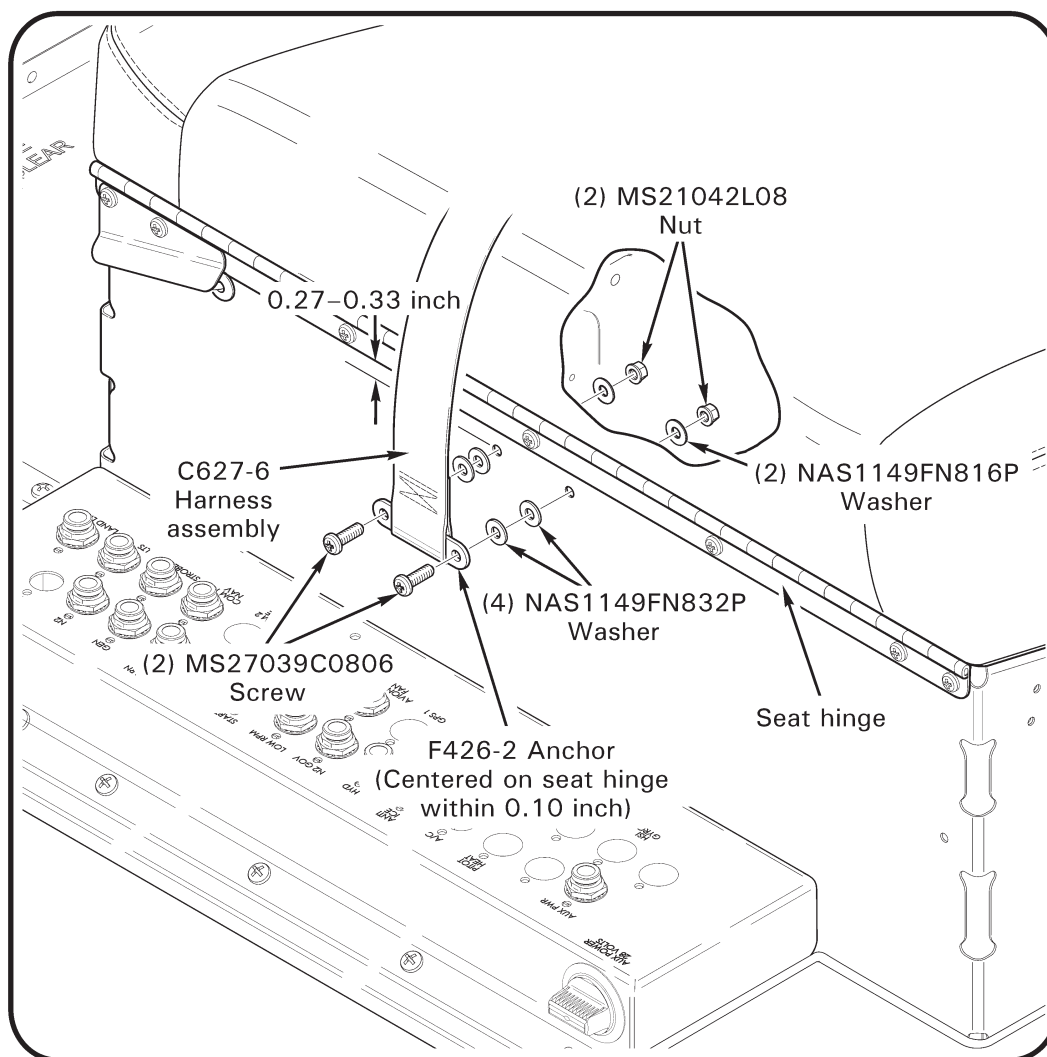
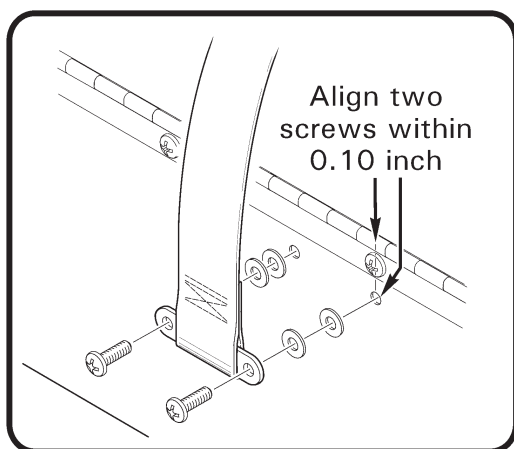

**FIGURE 2**
**FIGURE 3**
- a. Refer to Figure 2. Remove existing (3) MS27039C0807 screws in F403 door post where F423-4 tube is to be installed. Install F426-1 stiffener onto F403 door post using (3) MS27039C0809 screws. Verify rivet heads in door post are centered in stiffener clearance holes.
- b. Using F426-1 stiffener holes as pilot holes, match drill four 0.159-inch diameter holes in door post as shown. Deburr holes and clean up debris. Install (4) NAS9301B-5-04 rivets. Remove screws and verify stiffener security.
8. Drill 0.159-inch diameter hole in F423-1 tube in center of marked fitting location. Deburr hole & clean up debris. Attach lower fitting to tube using NAS9301B-5-06 rivet and install C421-6 tube on fitting. Position F423-4 tube's fitting on C421-6 tube and install (6) MS27039C0809 screws securing F423-4 tube to door posts. Verify security.
9. Refer to Figure 3. Perform the following on LH and RH sides of helicopter: Remove C627-6 harness assembly inertia reel cover. Using reel's mounting plate holes as pilot holes, drill (4) 0.191-inch diameter holes thru F370-1 (LH) and F369-3 (RH) panels as shown. Deburr holes & clean up debris.
10. Drill (2) 0.641-inch diameter holes thru seat back as shown. Deburr holes & clean up debris.
12. Refer to Figure 2. Drape harnesses over F423-4 tube, and install hardware securing F424-1 bumper to tube.